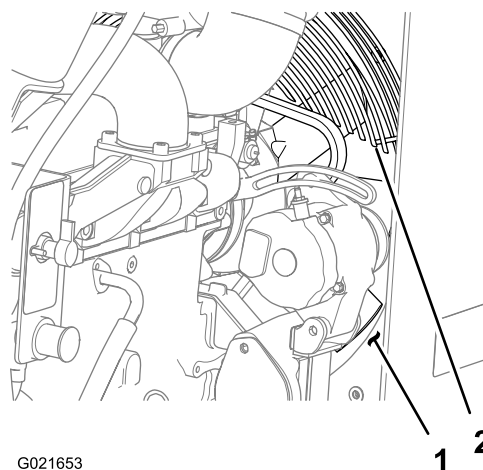

Figure 88
- Rotate the fan guard counterclockwise around the drive shaft of the fan until the opening in the guard is at the 4 o'clock position (Figure 88).